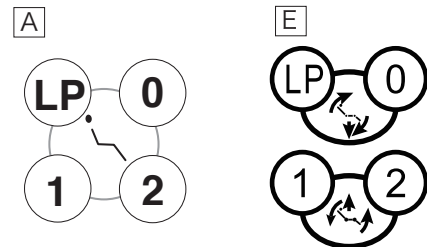

Fig.3-8 Chair Auto Mode Switches
⑥ Chair Auto Mode Switches (Fig.3-8) **A** **E**